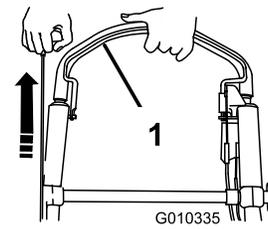

Figure 14
2. Hold the blade control bar against the handle and pull the recoil starter (Figure 14).